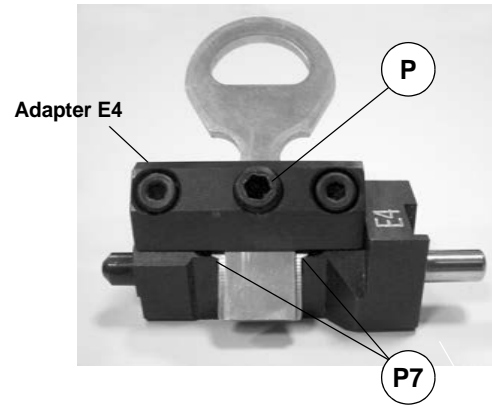

Fig. 48
- 3) Fit the key blank into the adapter **E4** so that the bit stops butt against the **E4** adapter stops (P7) (fig. 48); tighten the screw (P).
- 6) Tighten the knob (T1). Use the T wrench (T4) to tighten the screw (V1) first, then the screw (V2) (fig. 48). Replace the T wrench (T4) into its seat, lower the mobile safety shield and begin the process with START.